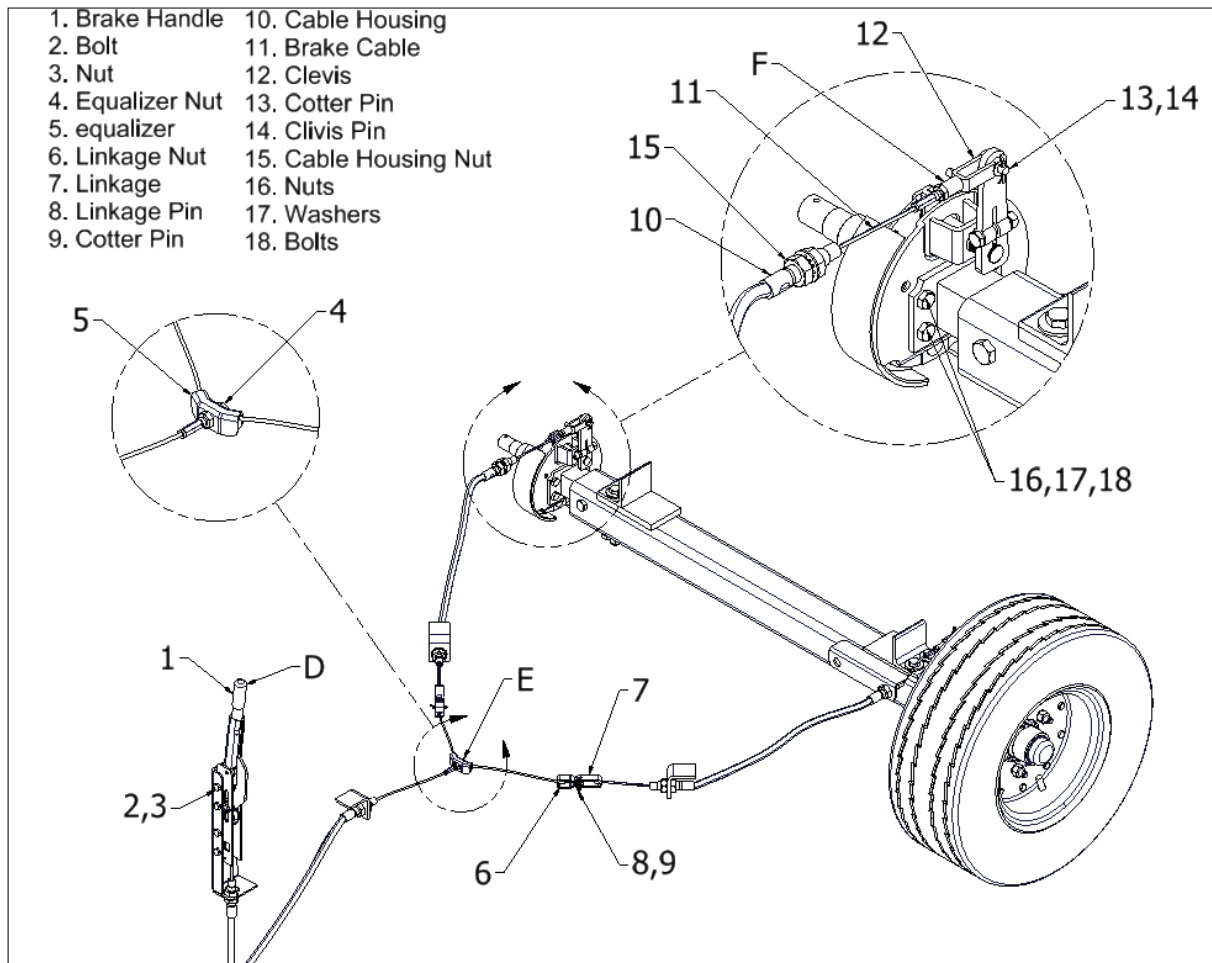

Figure 4-10 Brake and Cable Assembly
- c. Remove brake cable end from arm (5) as described in Section 4.17, step (a).
- d. Remove nuts (16), washers (17), and bolts (18) shown in Figure 4-10.
- f. Remove spring (3).
- g. Release brake shoes (2) by removing spring (9) from the backing plate (1).
- h. Remove nut (7), lock washer (8), and bolt (6) to release arm (5).
- i. Remove brake cam bolt (4) by pulling directly outward.
An in-field adjustment can be made at the brake handle by turning the handle cap clockwise to tighten brakes and counterclockwise to loosen the brakes (see reference arrow D in Figure 4-10.) This adjustment must be made with the brake handle in the off position. Maintenance level adjustments can be made at reference arrow E and reference arrow F of Figure 4-10 (each side).
The brake handle and cable assembly only need to be disassembled to the point that the repair is needed. These instructions start at the wheel assembly and progress toward the brake handle (1). (Figure 4-10)
- Remove cotter pin (13) and clevis pin (14) to release clevis (12).
- Unthread clevis (12) from cable
- Remove nut (15) and remove cable housing (10) from bracket.
- Remove nut at opposite end of cable and disassemble cable linkage parts (6), (7), (8), and (9).
- Remove nut (4) to release cable equalizer (5).
- Remove nut at other end of cable and release cable by disassembling cable linkage from brake handle (1).
- Remove bolts (2) and nuts (3) to free brake handle (1).